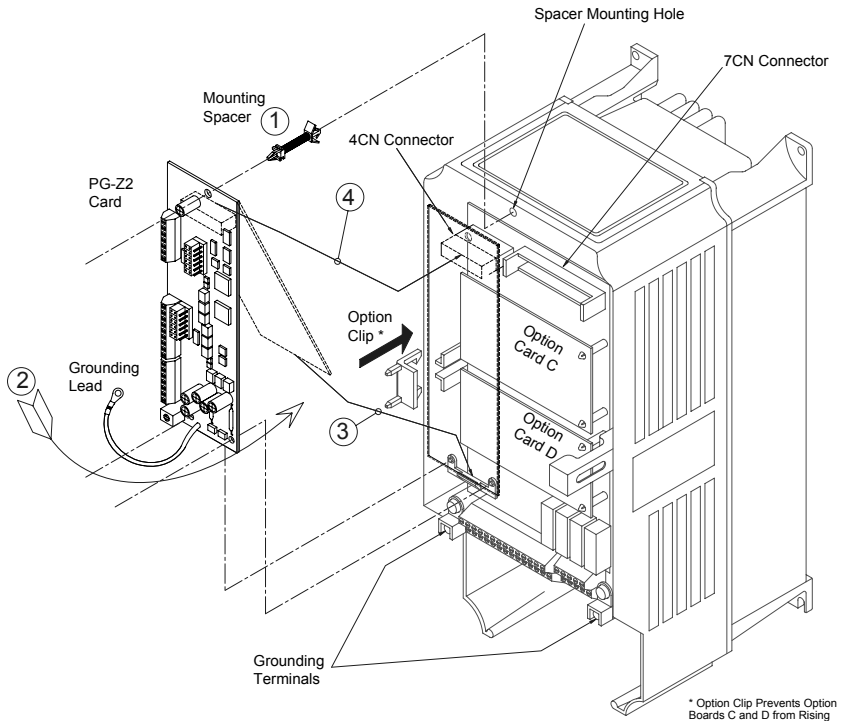

Fig. 3 Installation of the PG-Z2 Card
It is necessary to install **and** wire option cards to positions C and D (See Fig. 3), prior to installing the PG-Z2 card.
2. Insert the spacer (SRNT41028-9) into the spacer mounting hole in the mounting base of the Drive, just above the top edge of the control board (see Fig. 3). Some Drive models have two closely spaced mounting holes. Insert the spacer into the hole closest to the 7CN connector on the control board. Insertion of the spacer into the incorrect hole WILL NOT provide proper alignment with the card's mounting hole.